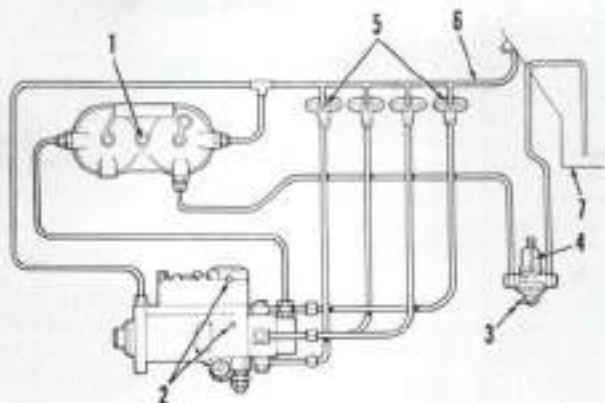

Fig. 104—View of typical fuel filter arrangement used on all models.
Clean area around filters and remove cap screws (2 and 4—Fig. 104) which retain elements and bases. Remove base (7 and 12) and elements (6 and 10). Discard all sealing rings and clean base with diesel fuel.
Install small "O" ring (8—Fig. 104) in groove around protrusion which centers filter element on filter head. Install sealing ring (9) in groove around outer edge of filter head and sealing ring (11) in base. Place element on base and sealing ring, push onto protrusion on filter